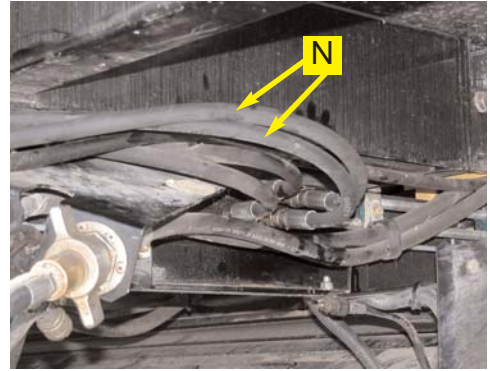

Figure 7a. Installed steering hoses at run tees.
- a. Connect the hydraulic steering hoses (**N**) between the **A** and **B** ports on the Automated Steering Block and the branches on the steering run tees. (Figure 7a, 7b, and 7c.)